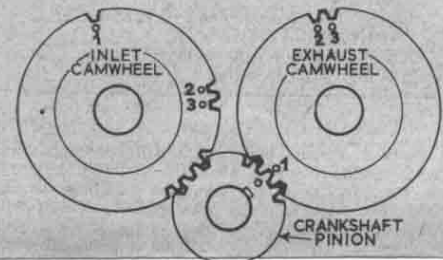

Fig. 2. Setting valve timing using marks on camwheels and crankshaft pinion.
(4) Resetting Valve Timing (see fig. 2).